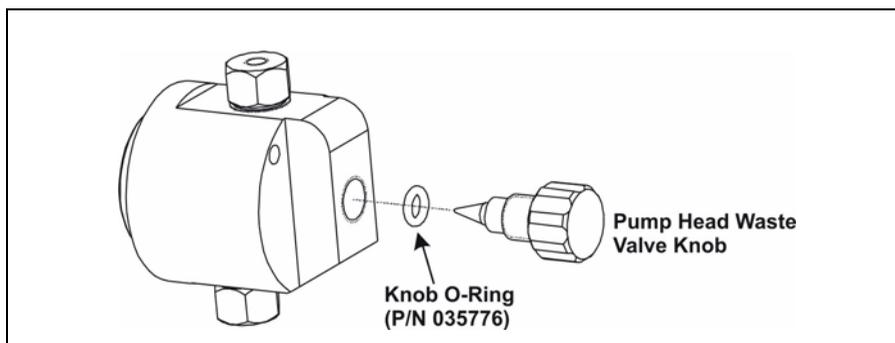

Figure 5-8. Pump Head Assembly
4. Remove the valve from the pump head housing by turning the knob counterclockwise until it comes loose from the housing (see Figure 5-8).